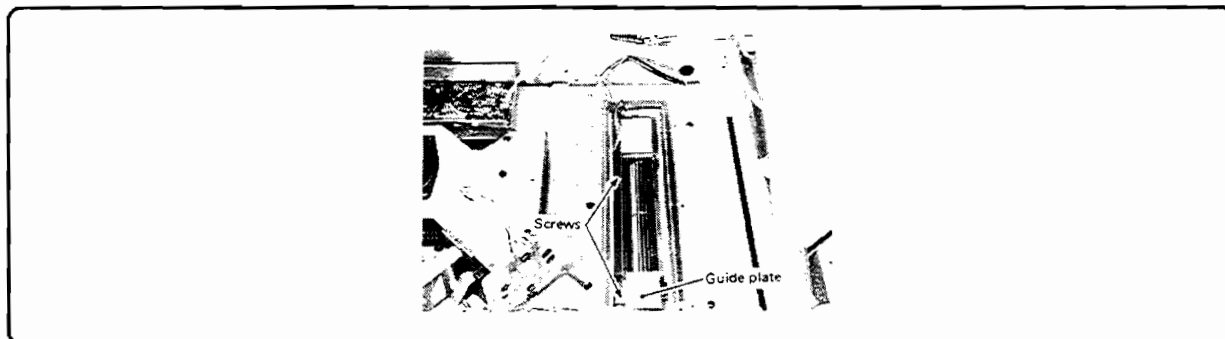

Figure 6-96. Engine-FM5 Guide Plate
9. Remove the two screws and detach the guide plate (Figure 6-96).